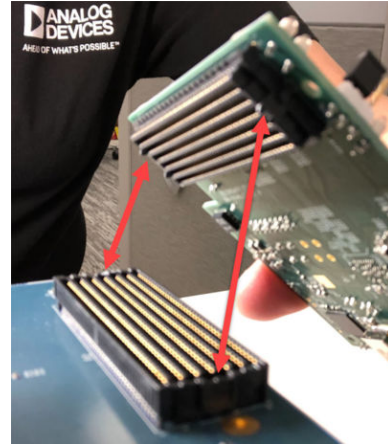

Figure 6. Connecting the AD9217-10GEBZ-B to the ADS8-V1-EBZ
1. Connect the AD9217-10GEBZ-B to the **ADS8-V1EBZ** evaluation board as shown in Figure 6.